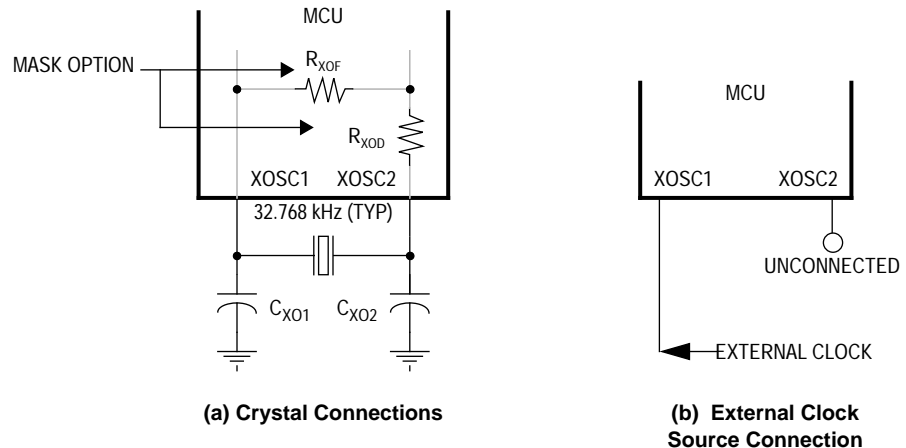

Figure 1-5. Oscillator Connections
1. A crystal as shown in **Figure 1-5(a)**
2. An external clock signal as shown in **Figure 1-5(b)**
The circuit in **Figure 1-5(a)** shows a typical 2-pin oscillator circuit for a 32.768-kHz “watch” crystal. The crystal manufacturer’s recommendations should be followed, since the crystal parameters determine the external component values required to provide maximum stability and reliable startup. The load capacitance values used in the oscillator circuit design should include all stray capacitances. The crystal and components should be mounted as close as possible to the pins for start-up stabilization and to minimize output distortion. An internal startup feedback resistor of R_{xof} between XOSC1 and XOSC2 and a damping resistor of R_{xod} in series to XOSC2 can be selected as a mask option.
As shown in **Figure 1-5(b)**, an external clock from another CMOS-compatible device can be connected to the XOSC1 input (with the XOSC2 output not connected). This configuration is possible regardless of the oscillator setup.